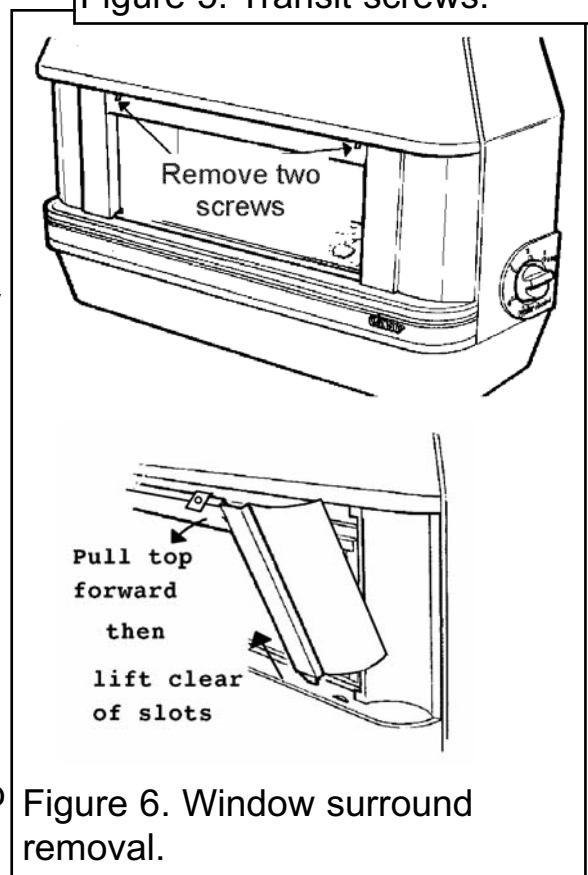

Figure 6. Window surround removal.
3. Detach the window surround (See figure 6).